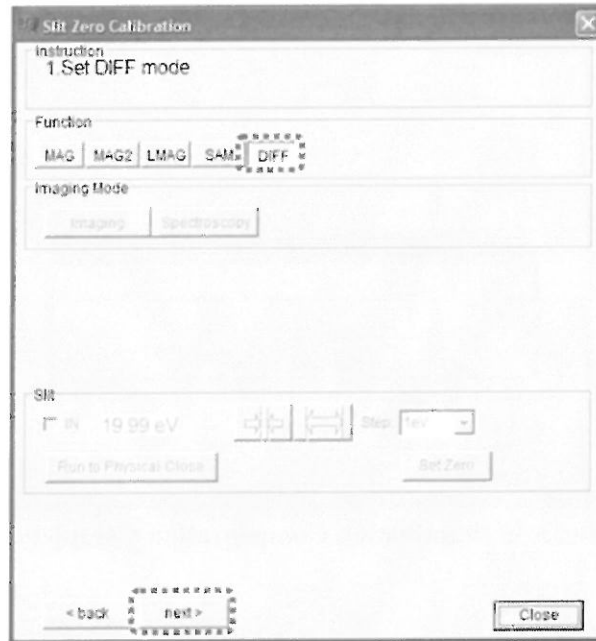
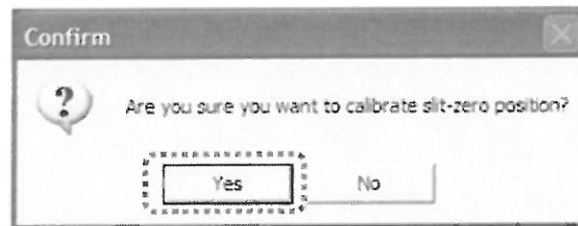

Fig. 5.56 Slit Zero Calibration - 1. Set DIFF mode
Fig. 5.64 Slit Zero Calibration Complete
Slit width zero adjustment. Follow the instructions of the wizard and continue the process (Fig. 5.56 through Fig. 5.64).
1. Follow "Instruction – 1. Set DIFF mode", switch to DIFF mode by pressing the **DIFF** button (Fig. 5.56). After the switch, press the **next** button to proceed.
9. The Confirm window will be displayed when the **next** button in step 8 is clicked. Click **Yes** and complete the calibration (Fig. 5.64).